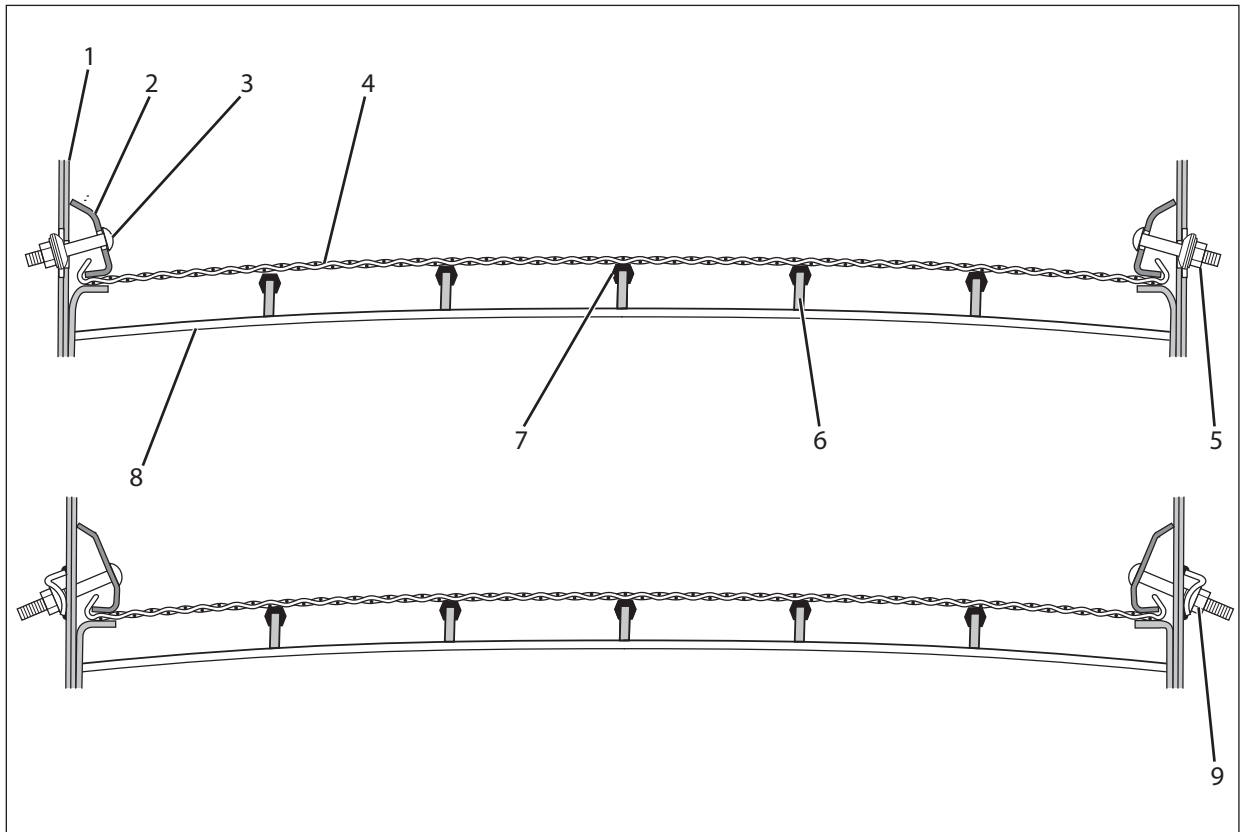
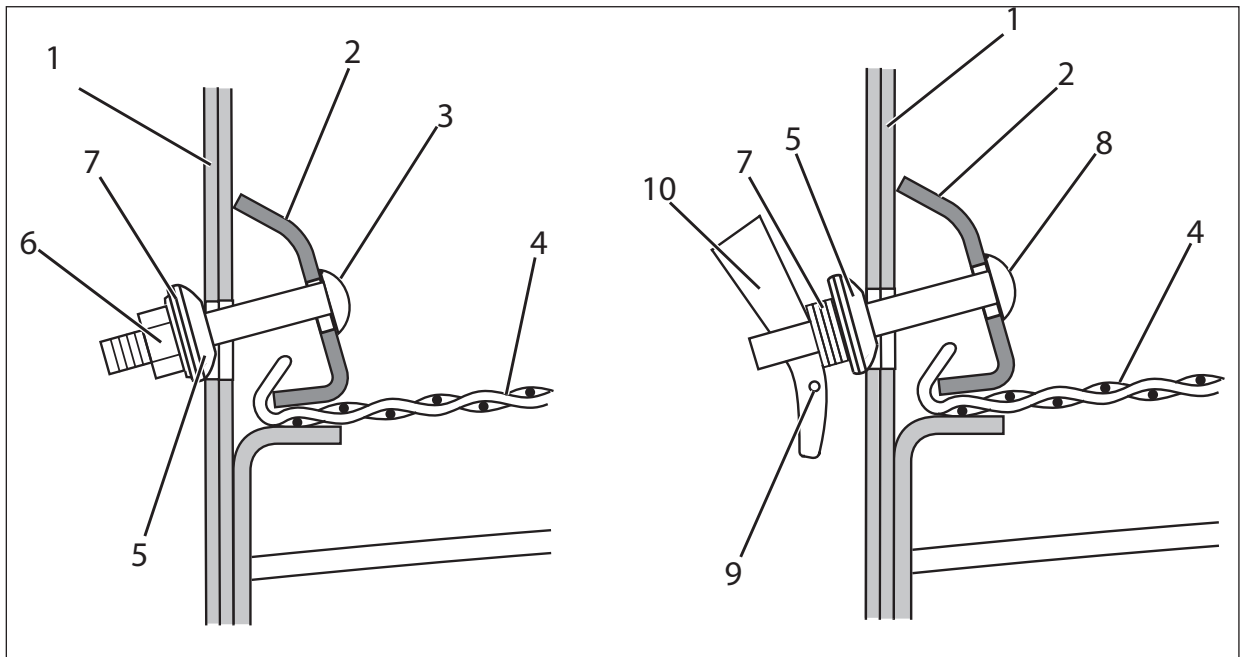

Figure 9.77 - Cross sectional view of a typical screen deck
Figure 9.78 - Screen cloth side retaining hardware
2. Remove all draw bolts and draw plates. On the top deck, lift wire cloth out from top. On middle and bottom decks, pull cloth out from either end of screen, Ref: Figure 9.77.
The spherical washer design (top image in Figure 9.77) is the design used in the current production of screens. The side plate washer design (bottom image in Figure 9.77) is used in older models
1. When installing wire cloths refer to Figure 9.77 and Figure 9.78.